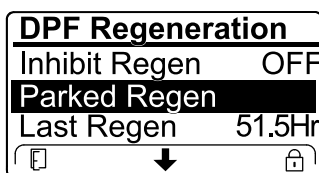

Figure 62
- If the engine computer requests a recovery regeneration or is processing a recovery regeneration and you scroll down to the PARKED REGEN option, parked regeneration locks and the lock icon (Figure 62) appears in the lower right corner of the InfoCenter.